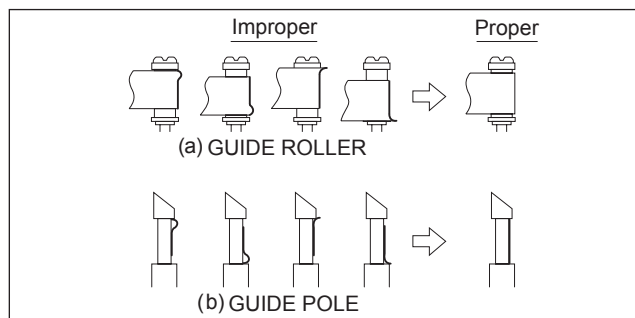
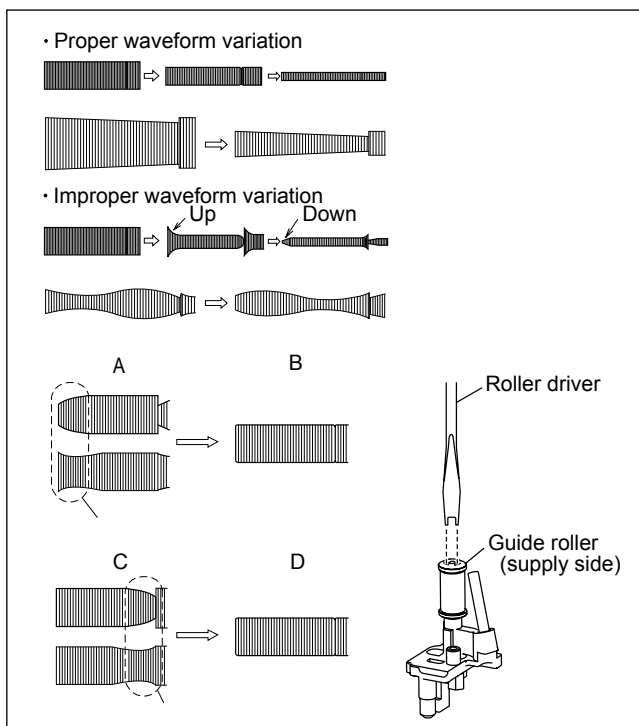

Fig.4-2b
Fig.4-2c
- To prevent damaging the alignment tape in the compatibility adjustment, prepare a cassette tape (for self-recording/playback), perform a test on it by transporting it and making sure that the tape is not bent by the tape transport mechanisms such as in the guide rollers.(See Fig.4-2b.)
- (1) Play back the alignment tape (A1).
- (2) Apply the external trigger signal to D.FF (E), to observe the V.PB FM waveform at the measuring point (D).
- (3) Set the VCR to the manual tracking mode.
- (4) Make sure that there is no significant level drop of the V.PB FM waveform caused by the tracking operation, with its generally parallel and linear variation ensured. Perform the following adjustments when required. (See Fig. 4-2c.)
- (5) Reduce the V.PB FM waveform by the tracking operation. If a drop in level is found on the left side, turn the guide roller of the pole base assembly (supply side) with the roller driver to make the V.PB FM waveform linear. If a drop in level is on the right side, likewise turn the guide roller of the pole base assembly (take-up side) with the roller driver to make it linear. (See Fig. 4-2c.)
- (6) Make sure that the V.PB FM waveform varies in parallel and linearly with the tracking operation again. When required, perform fine-adjustment of the guide roller of the pole base assembly (supply or take-up side).
- (7) Unload the cassette tape once, play back the alignment tape (A1) again and confirm the V.PB FM waveform.
- (8) After adjustment, confirm that the tape wrinkling does not occur at the roller upper or lower limits. (See Fig. 4-2b.) [Perform adjustment step (9) only for the models equipped with SP mode and EP (or LP) mode.]